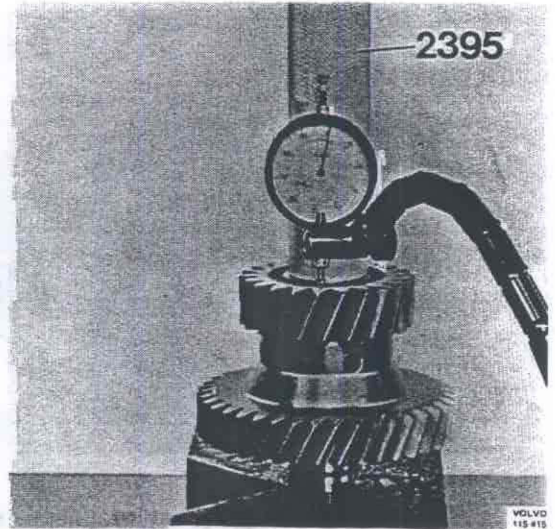

Fig. 43-169. Checking clearance
5. Place the intermediate gear complete in a press and fit 2395 on the small bearing inner race, Fig. 43-169. Press on the bearing using a force of about 1 ton. Check the axial clearance of the gear with a dial indicator. The clearance should be  $+0.01 \text{ mm } (+0.0004\text{'})$  to  $+0.06 \text{ mm } (+0.0024\text{'})$ . Remove the requisite number of shims in order to get the proper clearance.